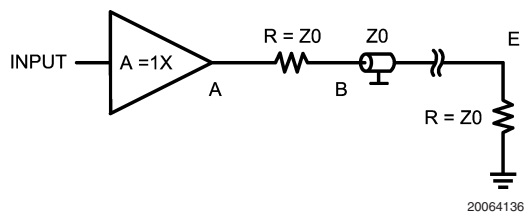
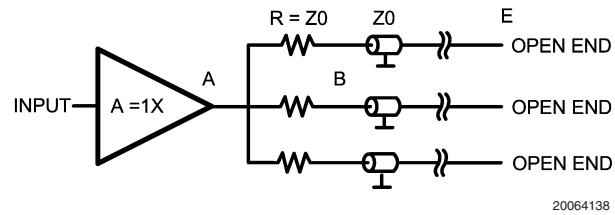
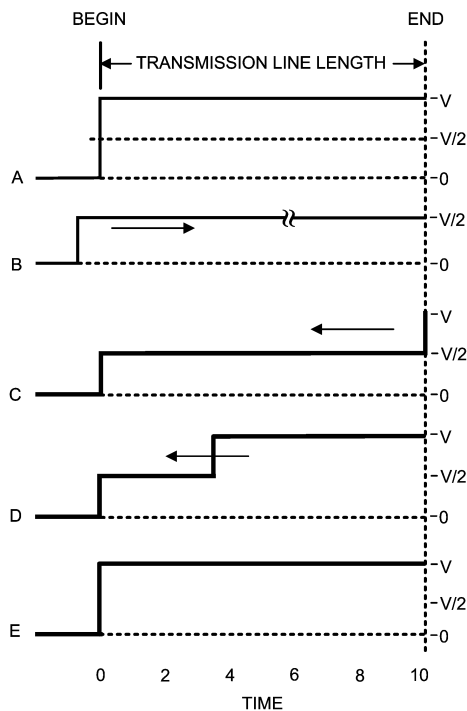

FIGURE 1.
FIGURE 3.
FIGURE 6.
- Use one buffer to drive one transmission line (see Figure 1)
- Use one buffer to drive several transmission lines each driving a different receiver. (see Figure 3)
In most cases, it is unrealistic to think that we can place a driver or buffer so close to the load that we don't need a transmission line to transport the signal. The pcb trace length between a driver and the load may affect operation depending upon the operating frequency. Sometimes it is possible to do measurements by connecting the DUT directly to the analyzer. As frequencies become higher the short lines from the DUT to the analyzer become long lines. When this happens there is a need to use transmission lines. The next point to examine is what happens when the load is connected to the transmission line. When driving a load, it is important to match the line and load impedance, otherwise reflections will occur and this phenomena will distort the signal. If a transient is applied at $T = 0$ (Figure 6, trace A) the resultant waveform may be observed at the start point of the transmission line. At this point (begin) on the transmission line the voltage increases to (V) and the wave front travels along the transmission line and arrives at the load at $T = 10$. At any point across along the line $I = V/Z_0$, where Z_0 is the impedance of the transmission line. For an applied transient of 2V with $Z_0 = 50\Omega$ the current from the buffer output stage is 40mA. Many vintage opamps cannot deliver this level of current because of an output current limitation of about 20mA or even less. At $T = 10$ the wave front arrives at the load. Since the load is perfectly matched to the transmission line all of the current traveling across the line will be absorbed and there will be no reflections. In this case source and load voltages are exactly the same. When the load and the transmission line have unequal values of impedance a different situation results. Remember there is another basic which says that energy cannot be lost. The power in the transmission line is $P = V^2/R$. In our example the total power is $2^2/50 = 80\text{mW}$. Assume a load of 75Ω. In that case a power of 80mW arrives at the 75Ω load and causes a voltage of the proper amplitude to maintain the incoming power.
Many applications, such as video, use a series resistance between the driver and the transmission line (see *Figure 1*). In this case the transmission line is terminated with the characteristic impedance at both ends of the line. See *Figure 6* trace B. The voltage traveling through the transmission line is half the voltage seen at the output of the buffer, because the series resistor in combination with Z_0 forms a two-to-one voltage divider. The result is a loss of 6dB. For video appli-
Another way to reach several points via a transmission line is to start several lines from one buffer output (see *Figure 3*). This is possible only if the output can deliver the needed current into the sum of all transmission lines. As can be seen in this figure there is a series termination used at the beginning of the transmission line and the end of the line has no termination. This means that only the signal at the endpoint is usable because at all other points the reflected signal will cause distortion over the line. Only at the endpoint will the measured signal be the same as at the startpoint. Referring to *Figure 6* trace C, the signal at the beginning of the line has a value of $V/2$ and at $T = 0$ this voltage starts traveling towards the end of the transmission line. Once at the endpoint the line has no termination and 100% reflection will occur. At $T = 10$ the reflection causes the signal to jump to 2V and to start traveling back along the line to the buffer (see *Figure 6* trace D). Once the wavefront reaches the series termination resistor, provided the termination value is Z_0 , the wavefront undergoes total absorption by the termination. This is only true if the output impedance of the buffer/driver is low in comparison to the characteristic impedance Z_0 . At
this moment the voltage in the whole transmission line has the nominal value of 2V (see *Figure 6* trace E). If the three transmission lines each have a different length the particular point in time at which the voltage at the series termination resistor jumps to 2V is different for each case. However, this transient is not transferred to the other lines because the output of the buffer is low and this transient is highly attenuated by the combination of the termination resistor and the output impedance of the buffer. A simple calculation illustrates the point. Assume that the output impedance is 5Ω. For the frequency of interest the attenuation is $V_B/V_A = 55/5 = 11$, where A and B are the points in *Figure 3*. In this case the voltage caused by the reflection is $2/11 = 0.18V$. This voltage is transferred to the remaining transmission lines in sequence and following the same rules as before this voltage is seen at the end points of those lines. The lower the output resistance the higher the decoupling between the different lines. Furthermore one can see that at the endpoint of these transmission lines there is a normal transient equal to the original transient at the beginning point. However at all other points of the transmission line there is a step voltage at different distances from the startpoint depending at what point this is measured (see trace D).